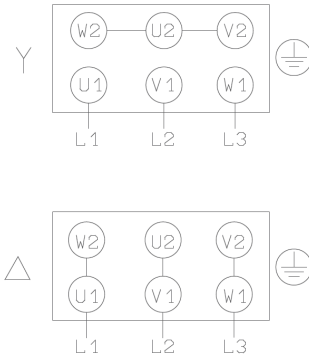

Fig. 39 Connection of AC/PM motor - star and triangle
7. Check the electrical connections of the fans depending on the power supply (3×230V or 3×400V). The type of power supply for which the fan has been prepared should be checked in the unit's KDC. On the motor nameplate, check the method of motor connection for a given power supply. Then connect in the required way according to the scheme in Fig. 39.
9. For fans with PM motors, check the winding connection according to Fig. 39 and when selecting Eura Drives' E800 frequency converter for their power supply, configure it according to Table 10.